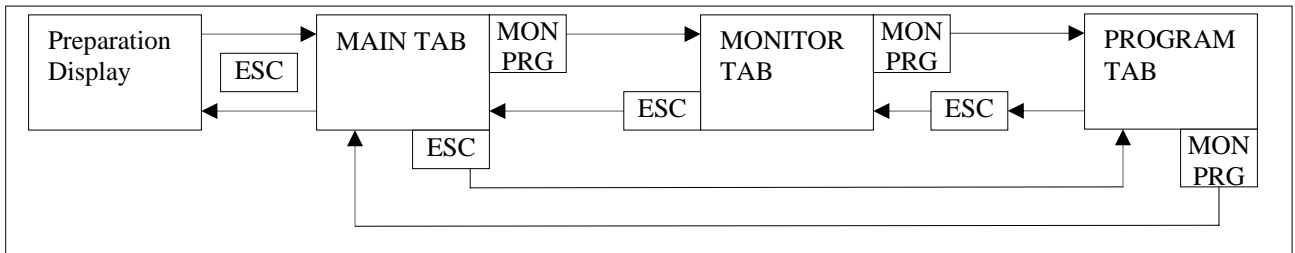

Figure 2. Navigation Sequence
5. MON/PRG Key – This key will cycle through the tabs (see figure 2).